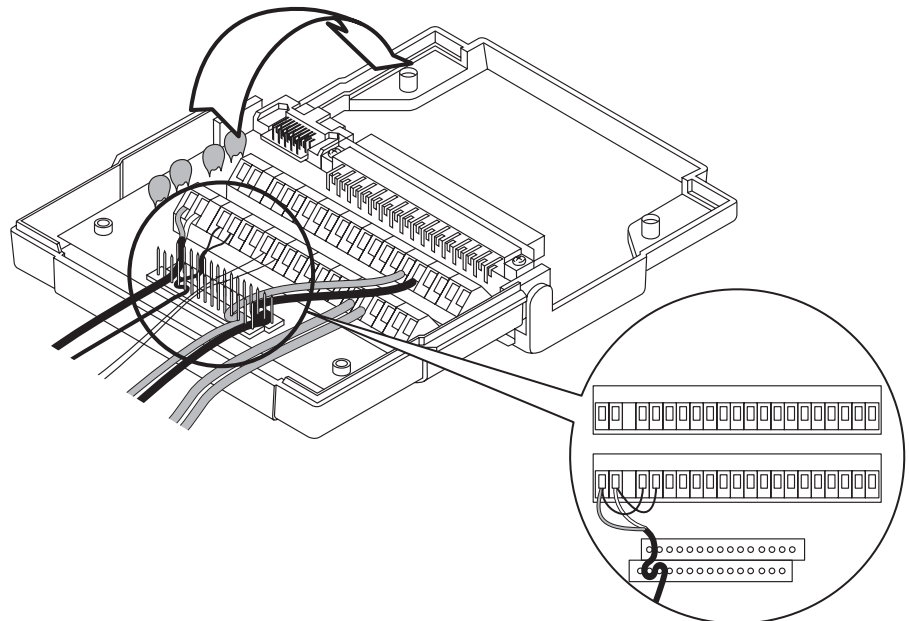

Figure 1.
1. Connect the type T thermocouple (provided with your Demo unit) to Channel 1 and 2 of the Universal Input Module in parallel fashion as shown in the expanded view of Figure 1.